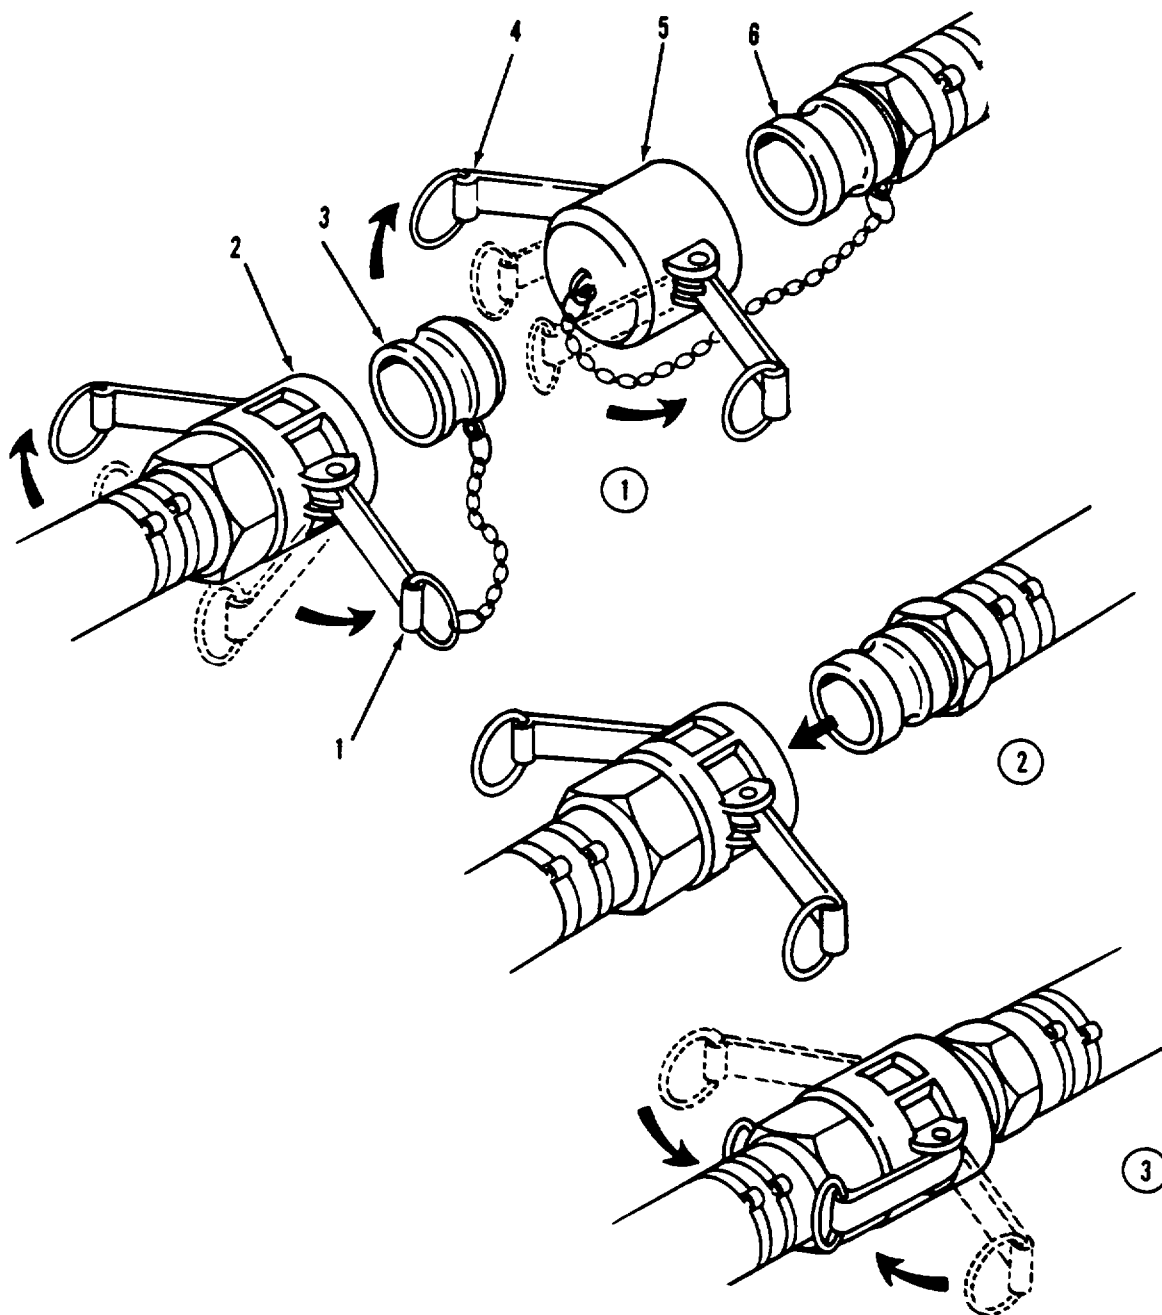

Figure 2-12. Quick Disconnect Couplings.
- (1) Place TRICONS, water tank storage chests, water pumps and hypochlorination units at selected installation sites.
- (2) Unload 600 gpm pumps, flaking boxes, 125 gpm pump, hypochlorination units and 20K collapsible fabric tanks. To aid assembly, separate components into groups of similar parts.
- (3) Unpack contents of each TRICON. To aid assembly, separate components into groups of similar parts during removal. For example, group all the 4-inch discharge hoses together, then all the 4-inch gate valves, 2-inch discharge hoses and so on until all components are unpacked.
- d Connection of Quick Disconnect Couplings. Refer to figure 2-12.